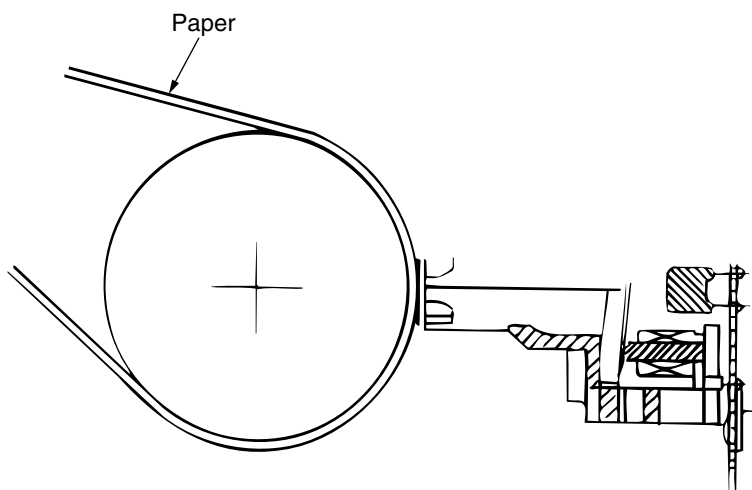

Figure 2-3
(2) Operation of printhead (See Figure 2-3.)